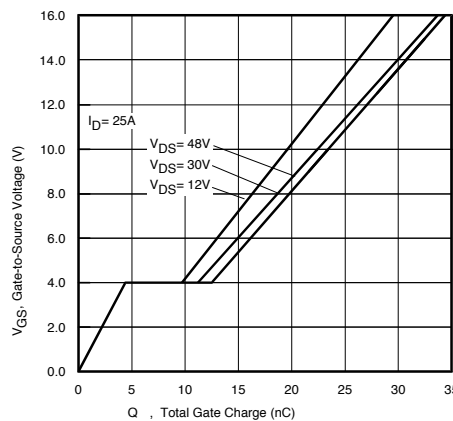

Figure 5: Typical Gate Charge vs. Gate-to-Source Voltage linearly extrapolated to  $V_{GS} = 15V$ .
**Gate Charge ( $Q_G$ )** The switching speed of the MOSFET is primarily determined by the gate charge. A smaller gate charge correlates with faster switching time so the gate charge should be minimize. The gate charge listed on a datasheet is typically the gate charge at a  $V_{GS} = 5V$ . However, when the HIP4086 has a supply voltage of 15V  $V_{GS}$  will be 15V. To determine  $Q_G$  at this voltage a plot of  $Q_G$  vs  $V_{GS}$  is used. The plot from the datasheet of the MOSFETs used in the current motor driver circuit, the IRFR3806TRPBF, is shown in Figure 58. From the plot  $Q_G = 33nC$  at  $V_{GS}=15V$
$Q_{GATE} = 32nC$ , gate Charge of the MOSFET at  $V_{GS} = 15V$  and  $V_{DS} \approx 30V$  from Figure 5.